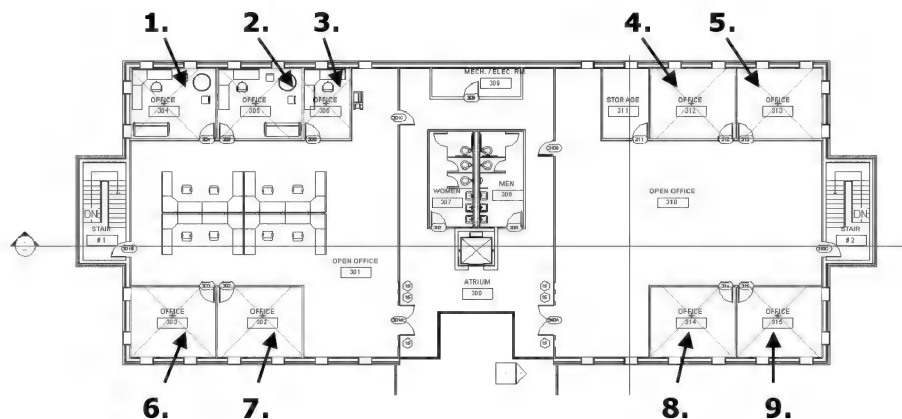

FIGURE 12-3.5 Level 3 – selected room
11. In the Level 3 plan view, select the **Rooms** (not the room tags) for all private offices – 9 total (Figure 12-3.5).